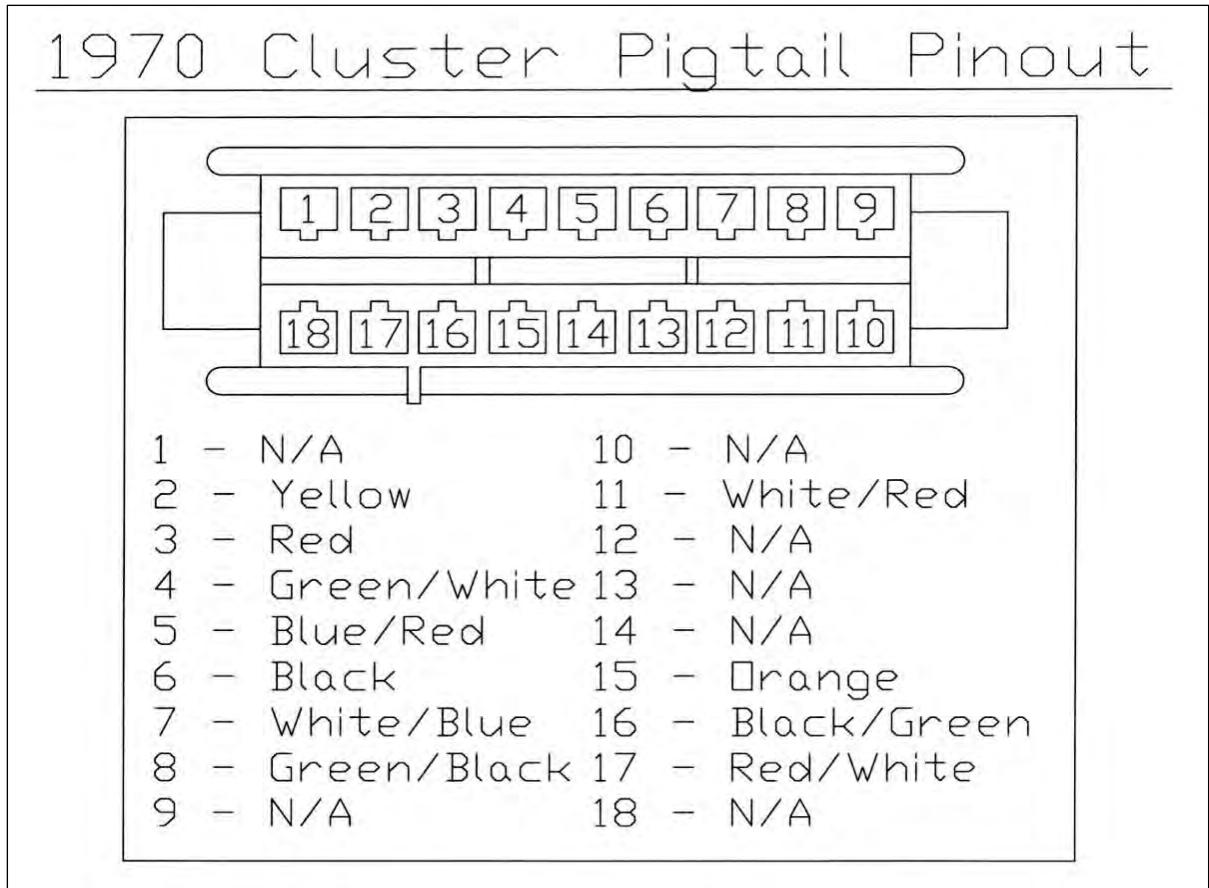

Figure 7-35 1970 Cluster Pigtail Pinout
- 7.17.1** For the years 1970 thru 1974 locate the '70 – '74 Cluster Pigtail in the harness kit. The connectors from 1970, 1971, 1973 and 1974 Ford trucks are all the same for the gauge clusters. Only 1972 Ford trucks have their own individual connector. The original connector for the gauge cluster must be reused on all trucks. **See Figures 7-35 thru 7-38. Locate the year of the truck being rewired and follow the diagram for the proper pin out.**